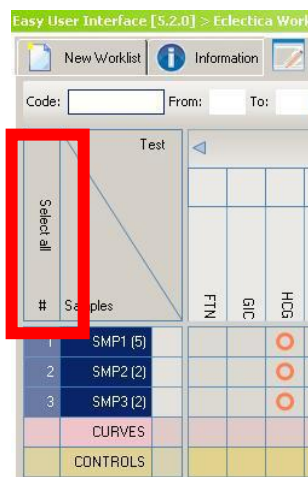

Fig. 7. 52
- Click on "**SELECT ALL**". All the samples will be selected (Fig. 7. 52)